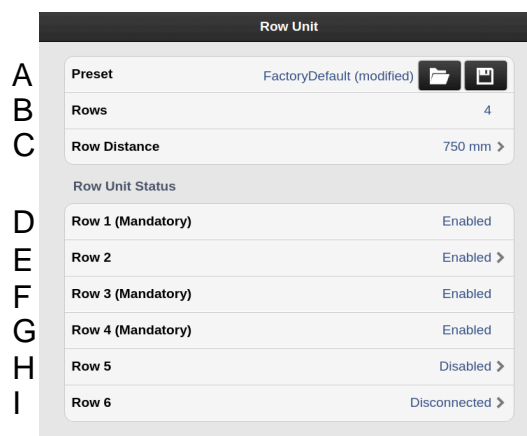

Figure 6.26
To save a row unit setting, select Save by clicking the floppy disk symbol (A); see “Figure 6.26 “, and enter a name in the text field displayed.
To open a saved setting, select the file symbol (A) and select the file to open; see “Figure 6.26 “.